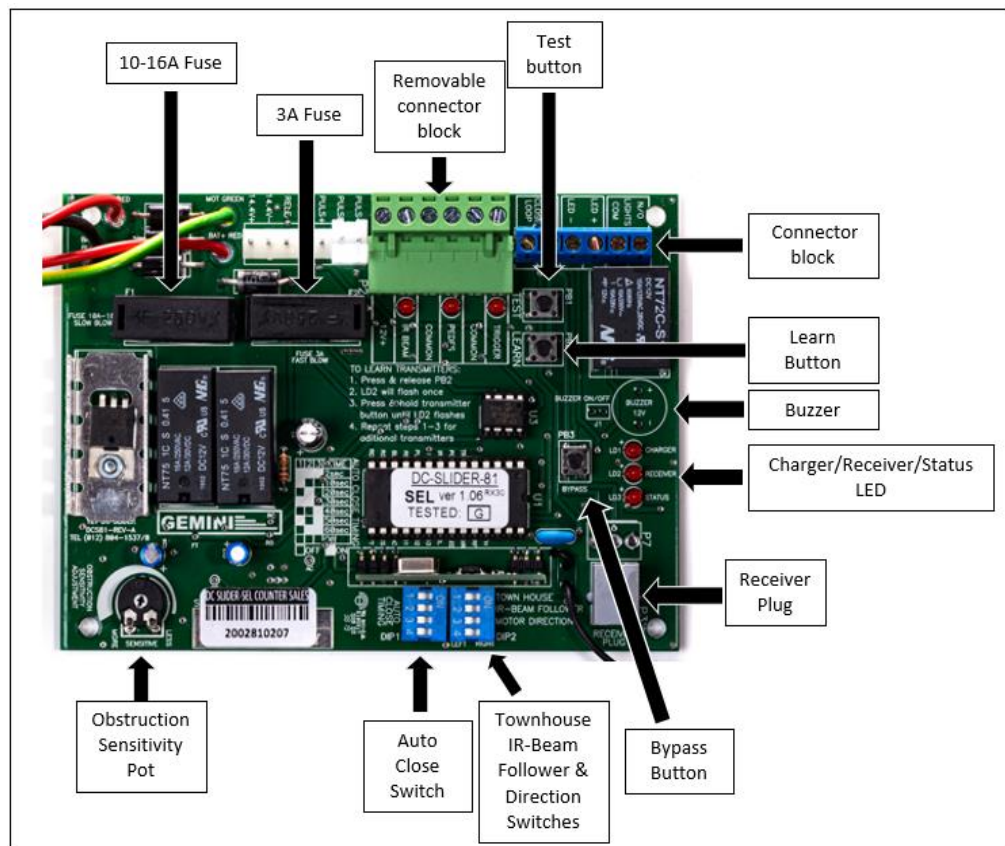

Figure 4
2. Press and release the learn button on the PCB. (See page 13 Figure 4)